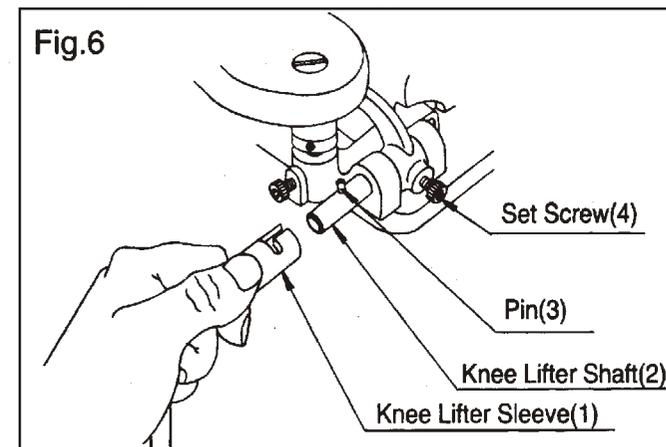

Fig.6
D. Assembly of Knee Lifter (Fig.6)